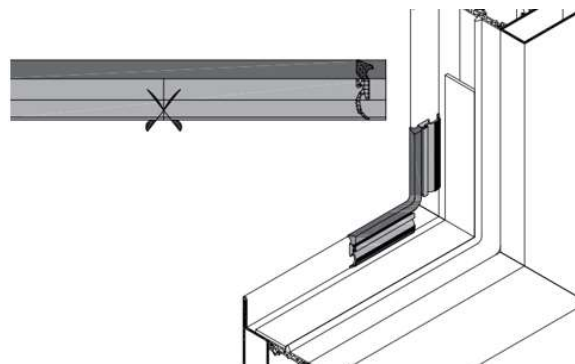

Figure 7. Cut of the outer glazing seal 985302
3. Install the outer glazing seal. Cut the seal until the soft part and the fix it to the frame (Figure 7). First install the seal corners and then the middle parts. The seal end must be finished at the top on the frame and glued together with contact glue (Figure 7 and 8).